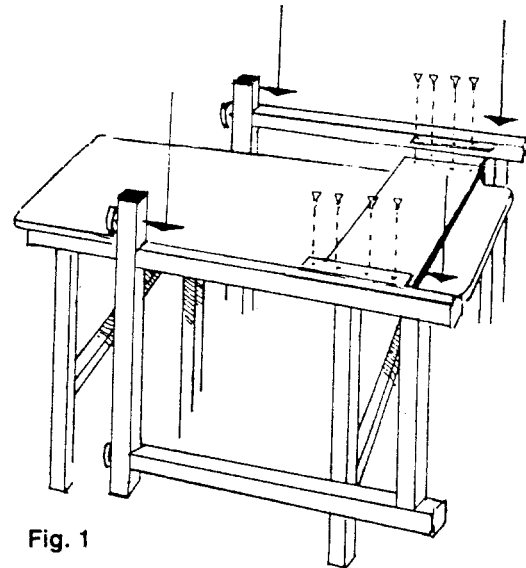

Fig. 1
- 1) Install glides (A) in leg sections.
- 2) Install rear panel (B) by threading no.10 screws into pre-drilled holes as follows (see figure 1)